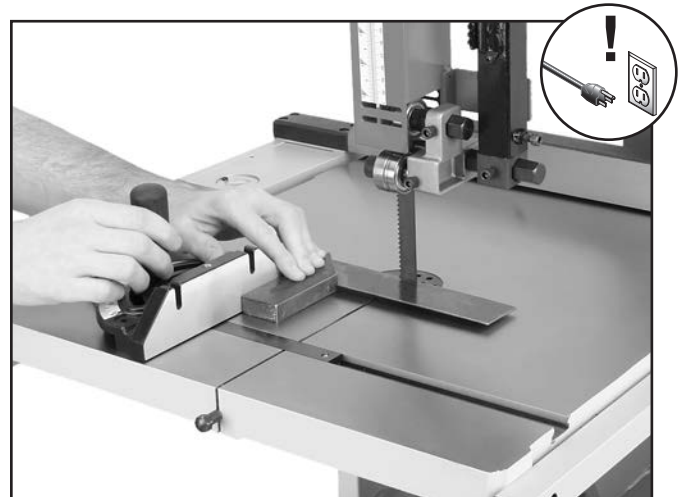

Figure 36. Example of squaring miter gauge to blade.
2. Place one edge of square against face of miter gauge and other edge of square against side of blade, as shown in **Figure 36**.